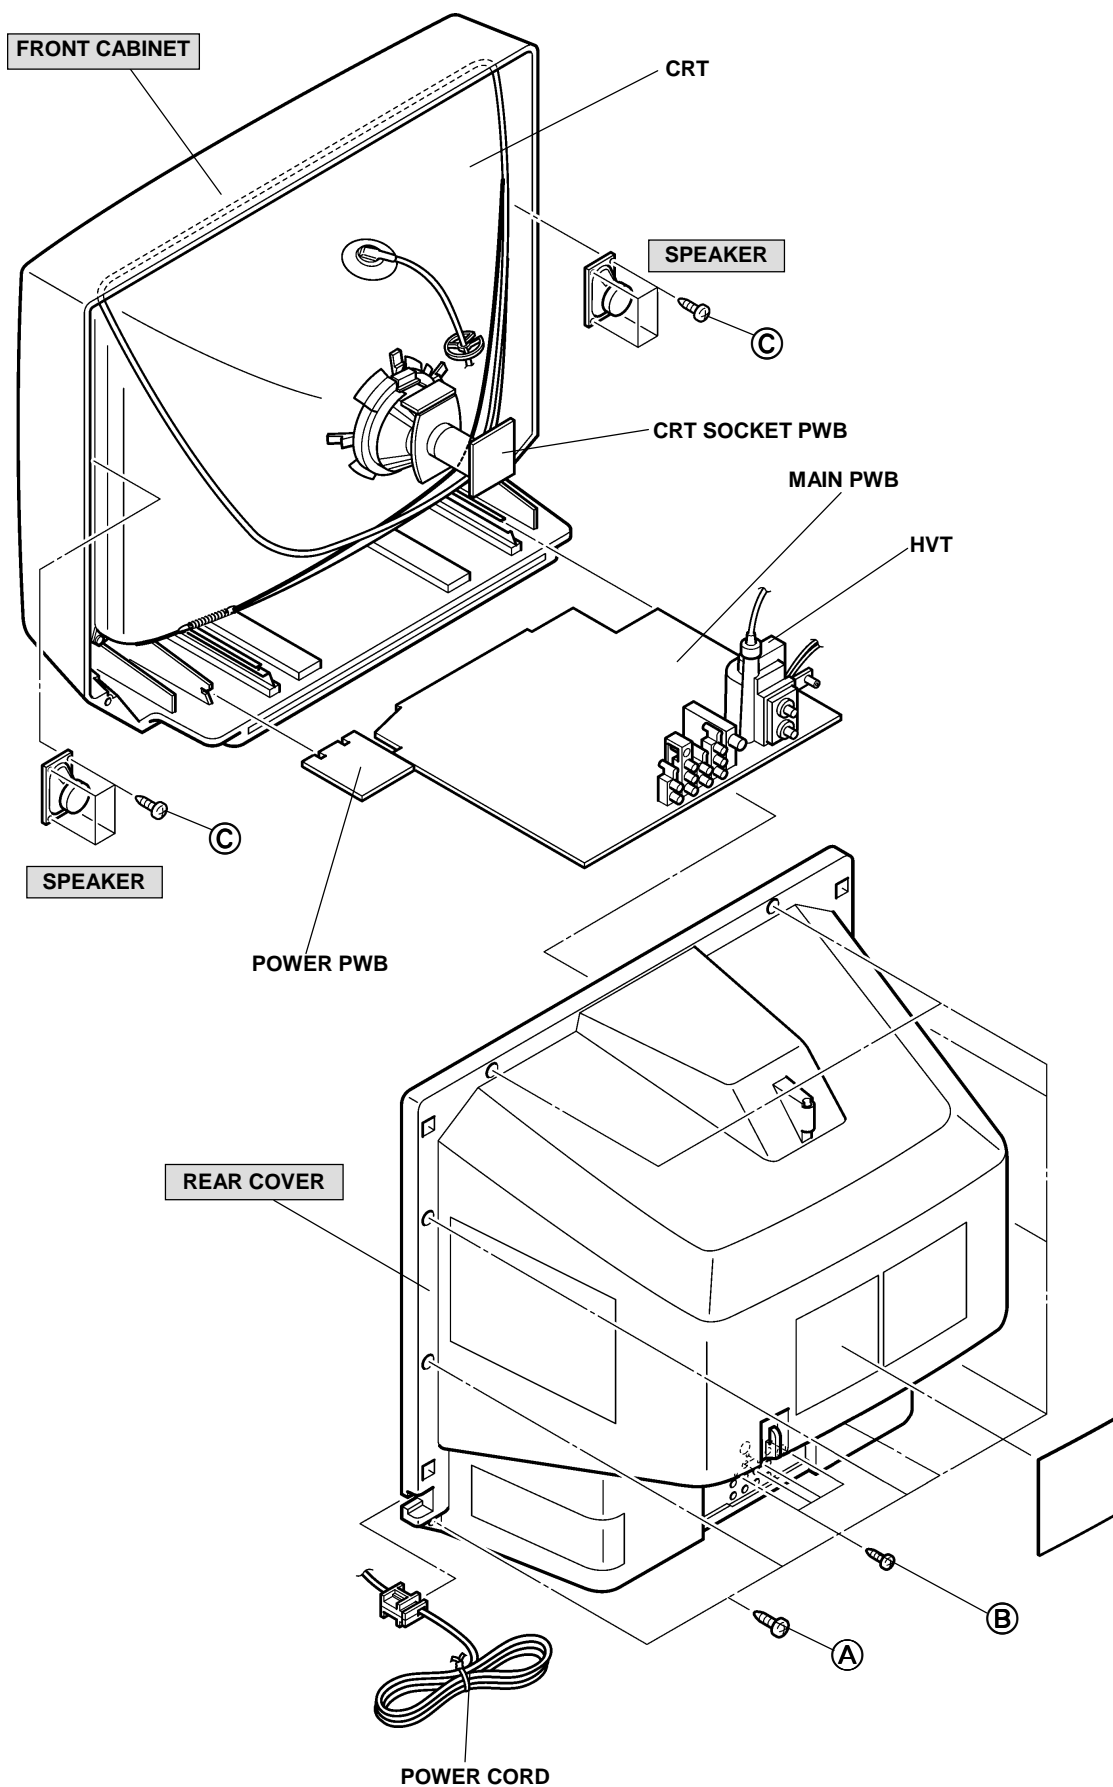

Fig.1
2. As shown in the Fig.1, remove the **9** screws marked **(A)** .
3. As shown in Fig.1, remove the **4** screws marked **(B)** .
1. As shown in Fig. 1, removing the screws marked **(C)** , then remove the speaker.
<p>(7) SERVICE MENU setting Verify what to set in the SERVICE MENU, and set whatever is necessary.(Fig.1) Refer to the SERVICE ADJUSTMENT for setting.</p>